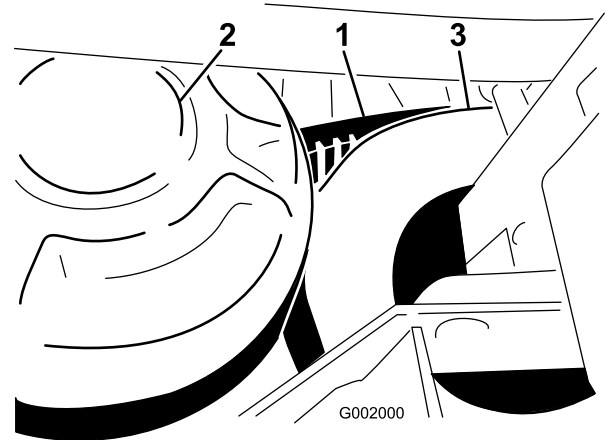

Figure 59
1. Rotate and route the belt over the secondary clutch (Figure 59).